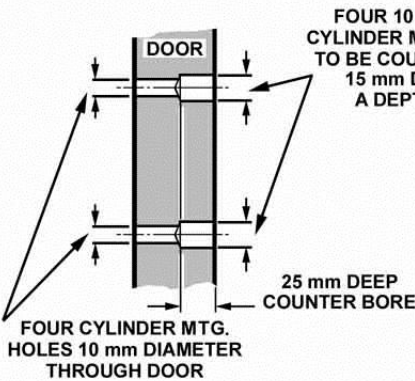

FIGURE 4
6. **This step only applies to Model 420 Locks. Remove Lock Body from door & drill four 10mm dia. holes through door, then counter bore each 15mm dia. x 25mm deep from the outside. Drill Lock Cylinder hole 32mm dia. (Fig. 4 & 5)**